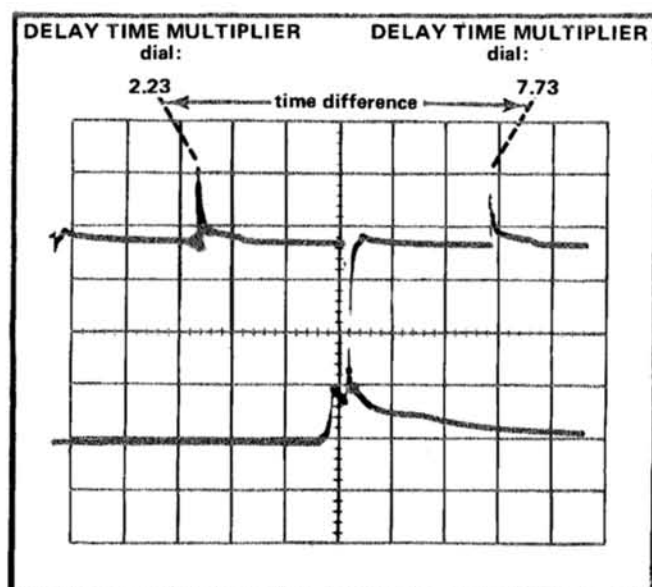

Fig. 2-12. Measuring time difference using delayed sweep.
2. Set the VOLTS/DIV selector to produce a display about three divisions in amplitude (see Fig. 2-12).